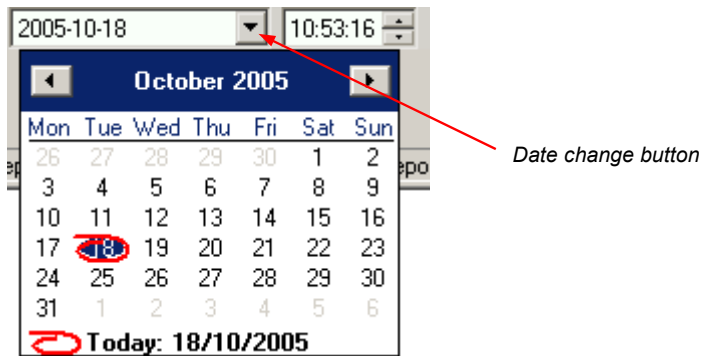

Fig. 3.4. Changing the “From date”
- 1) In order to change “From date” or “To date” date, click onto the arrow on right side of the date (Fig. 3.4). The calendar window will open: